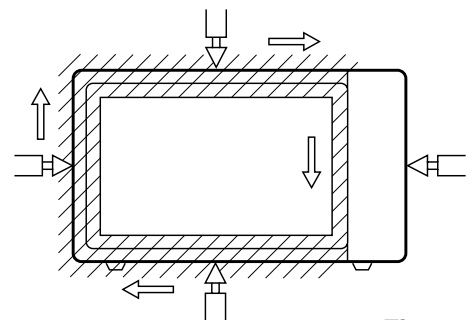

Figure 7
- (1) Pour 275±15cc of 20±5°C water in a beaker which is graduated to 600 cc, and place the beaker in the center of the oven.
- (2) Set the energy leakage monitor to 2,450 MHz and use it following the manufacturer's recommended test procedure to assure correct result.
- (3) When measuring the leakage, always use the 2 inch (5cm) spacer supplied with the probe.
- (4) Operate the oven at its maximum output.
- (5) Measure the microwave radiation using and electromagnetic radiation monitor by holding the probe perpendicular to the surface being measured. (See Figure 7)